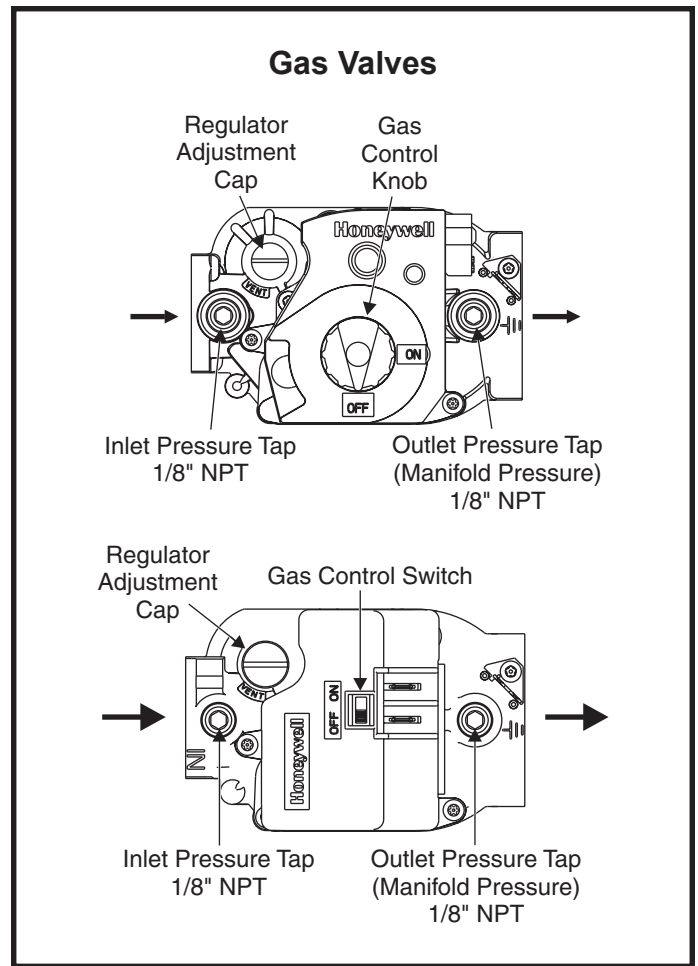

Figure 9
3. Turn the gas control knob, or slide the gas control switch, to the "ON" position (see Figure 9).
2. Turn the gas control knob, or slide the gas control switch, to the "OFF" position (see Figure 9).
The manifold pressure can be measured by shutting off the gas, removing the pipe plug in the downstream side of the gas valve, and connecting a water manometer or gauge. To adjust the regulator, turn the adjusting screw on the regulator clockwise to increase pressure and input or counter-clockwise to decrease pressure and input. **The final manifold pressure should not vary more than 0.3" W.C. from the above specified pressure.** See Figure 9 to assist in locating the regulator on the gas valve.